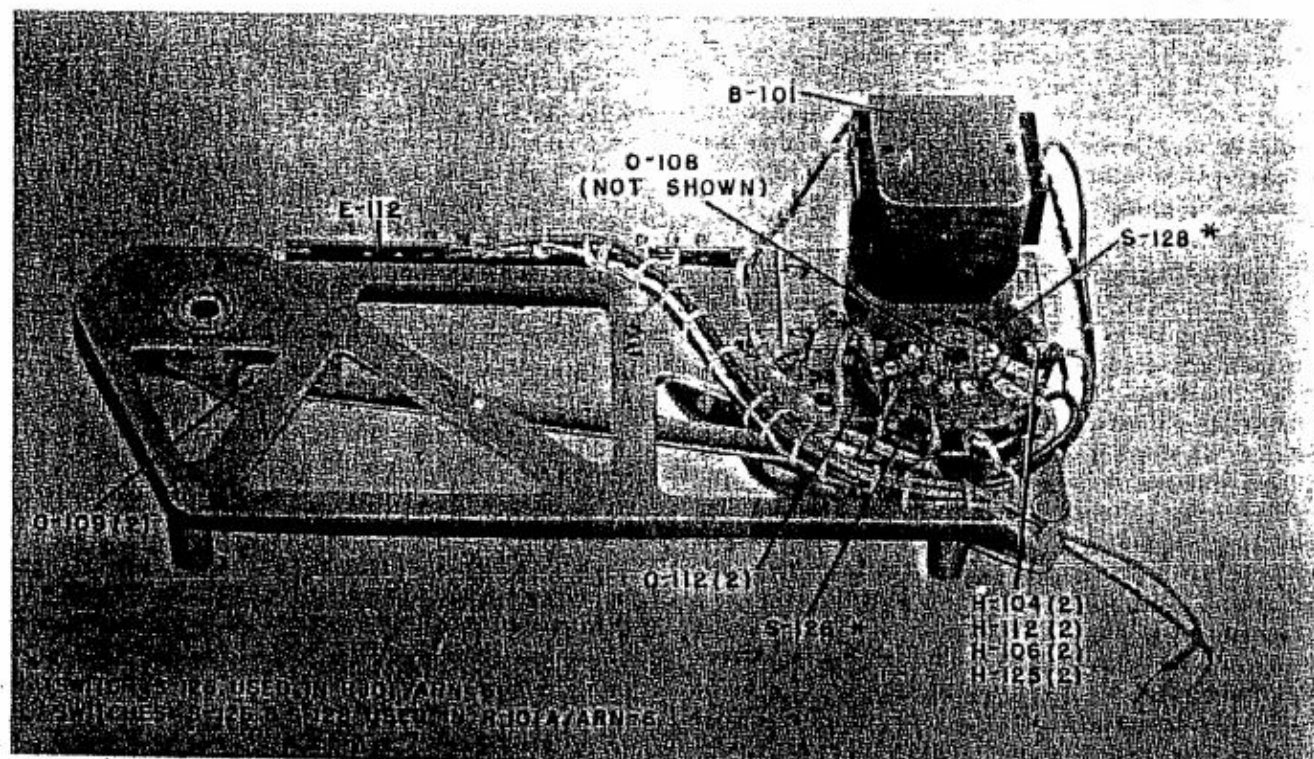

Figure 5-33. Band-Switch Mechanism, Motor Side
2. Switch wafers S-126 (of R-101/ARN-6) and S-126 and S-128 (of R-101A/ARN-6) are attached by two screws. Figure 5-33 shows how the mounting parts are assembled. When reassembling the switch to the frame, be sure the turned-up ears on the switch rotor fit into the two notches in the adapter ring 0-108.
3. The gear train is disassembled by removing the triangular bearing plate, which is held by three screws. (The gear train is shown in figures 5-33 and 5-34.) The gears can be removed in the sequence 0-105, 0-104, and 0-106. It is necessary that the pin on 0-105 be out of any slot in geneva disc 0-103 to lift the gear out; otherwise, there is interference between the "horns" of 0-103 and the milled clearance slot in the shaft of 0-105. 0-106, the gear which is directly meshed with the motor shaft gear, can be removed if 0-103 is moved along its axis to the extent of its play.